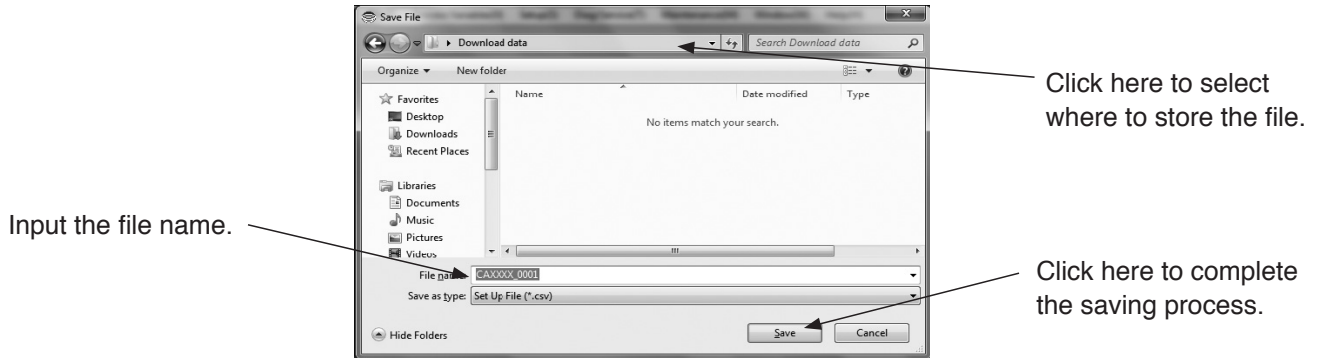

Fig.176
- ④ The common dialog box (Fig. 176) will be displayed. Select the disk and folder in which the data is to be stored from the drop-down list.
- ⑤ Input the name of the file to be saved and click the "Save (S)" button.